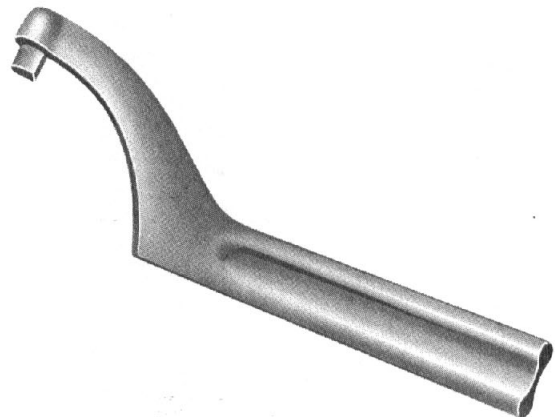

Fig. 40 - Lipe Spanner Wrench T-10970.
*NOTE:* A spanner wrench Lipe Tool #T-10970 is available for turning the notched adjusting wheel and locknut on the release sleeve. If this tool is not available a brass drift and hammer may be used. See Fig. 40.